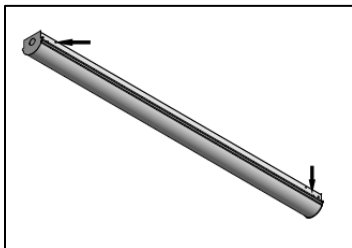

Figure 2
2. Remove the lens cover by pulling out towards the edges as shown in Figure 2. Place the lens in safe location.